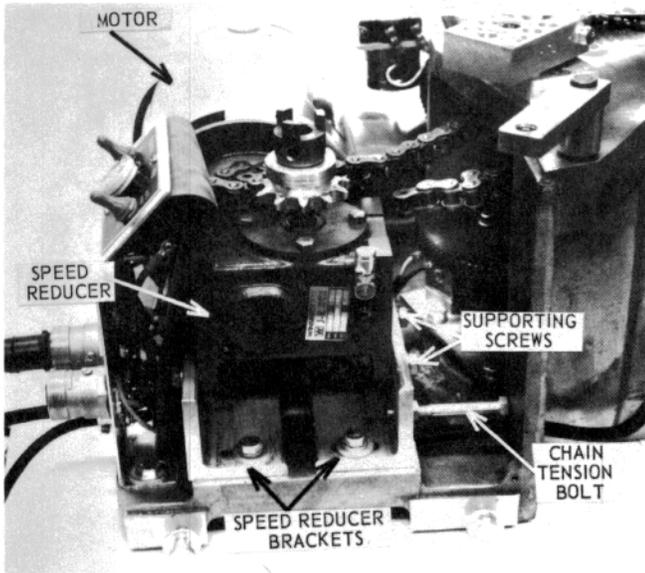

Figure 72 – Motor, Speed Reducer, and Supporting Screws
- 6.1.8 Remove the motor and speed reducer by removing the four supporting screws (see Figure 72). **BE CAREFUL** – the motor and speed reducer can drop onto the speed reducer brackets.